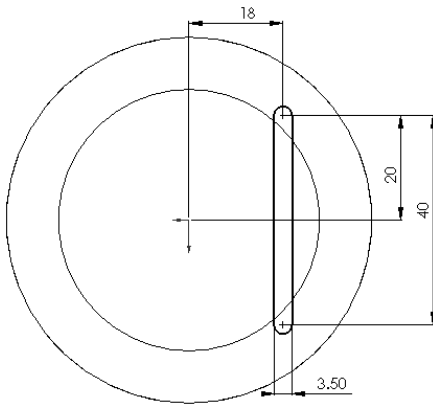

Figure 9-71 Sketch for the cut feature
- Create a cut feature on the top planar face of the base feature, refer to Figure 9-71.
2. Draw the sketch of the cut feature and add the required relations and dimensions to the sketch, as shown in Figure 9-71.